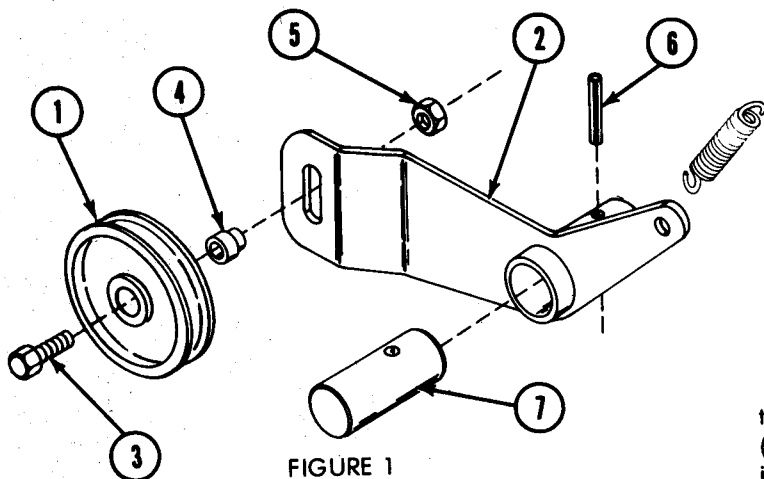

FIGURE 1
3. Position the new idler assembly (Figure 1) in the same position as the old. Insert the pivot pin (29264) and secure the idler assembly in place by inserting the roll pin (58016) through the idler arm hub and pivot pin.